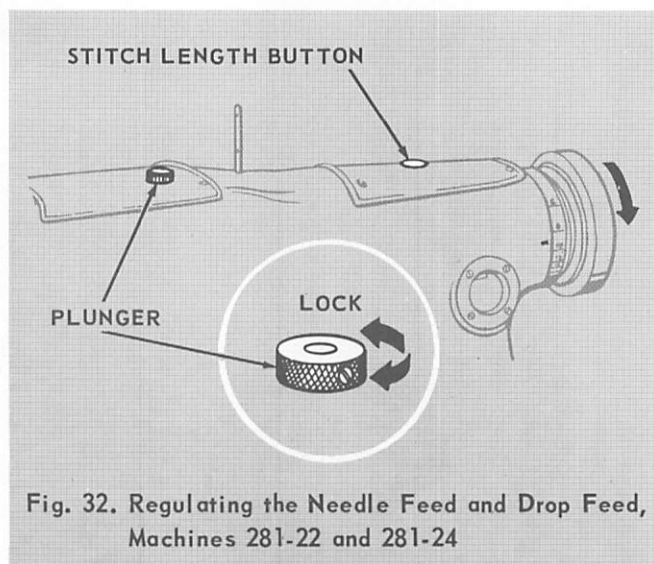

Fig. 32. Regulating the Needle Feed and Drop Feed, Machines 281-22 and 281-24
2. Depress plunger, shown in Fig. 32, on top of arm. Continue to hold plunger down - - -
5. Depress stitch length button, shown in Fig. 32.